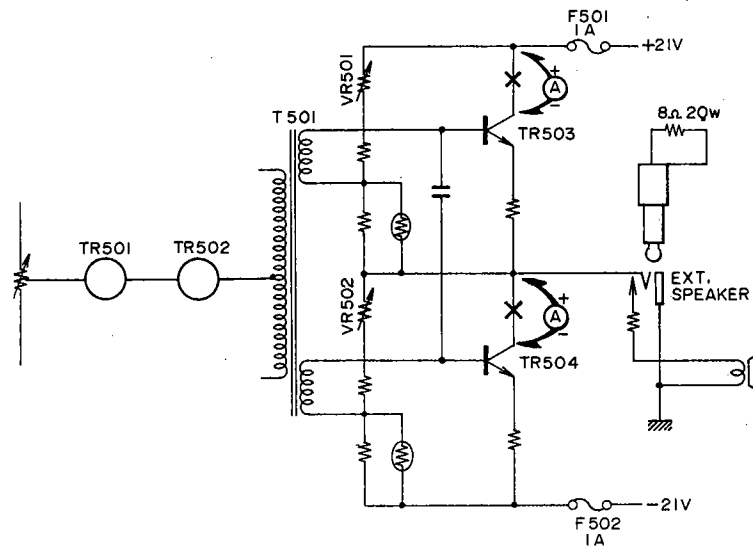

Fig. 1
- Connect collector circuit of main amplifier transistors TR-503 and TR-504 to Ammeter (100 mA to 150 mA scale) as shown in Fig. 1.